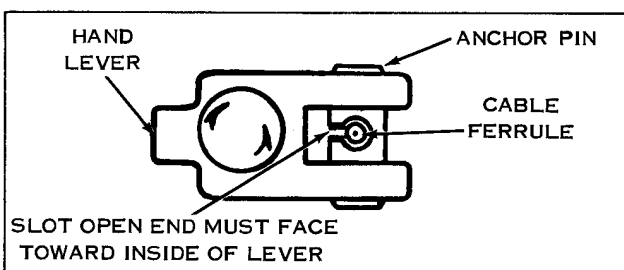

Figure 2-39. Correct Handlever Control Cable Assembly
If the front wheel brake cable is not free in its housing, is frayed or broken, replace cable. Remove clevis clamp nut and clamp. Free cable from clevis and pull from upper end of coil. Install new cable from upper end of housing as positioned on motorcycle, applying a light coat of grease as it is inserted into coil. When reassembling cable ferrule in hand lever anchor pin with side slot, be sure slot is toward inside as shown in figure 2-39.
Assemble in reverse order of disassembly except, for ease of assembly, connect two shoes with top return spring (3). Position unit on pivot stud (8) and cam lever (18). Insert lower spring (1). Spring hooks must be in shoe spacer notch nearest side cover. When reassembling cable ferrule in hand lever anchor pin with side slot, be sure slot is toward inside as shown in figure 2-39. Earlier type pin with slotted end should have open end facing downward.